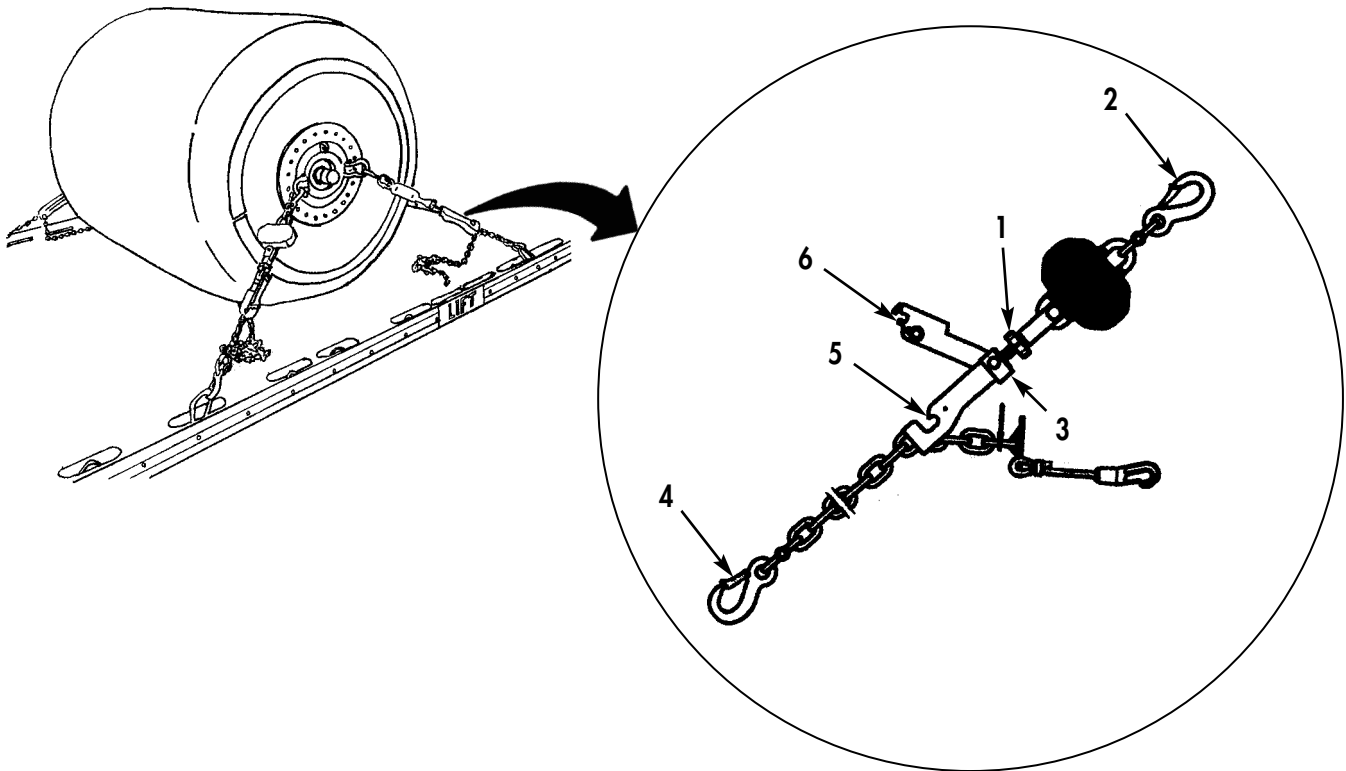
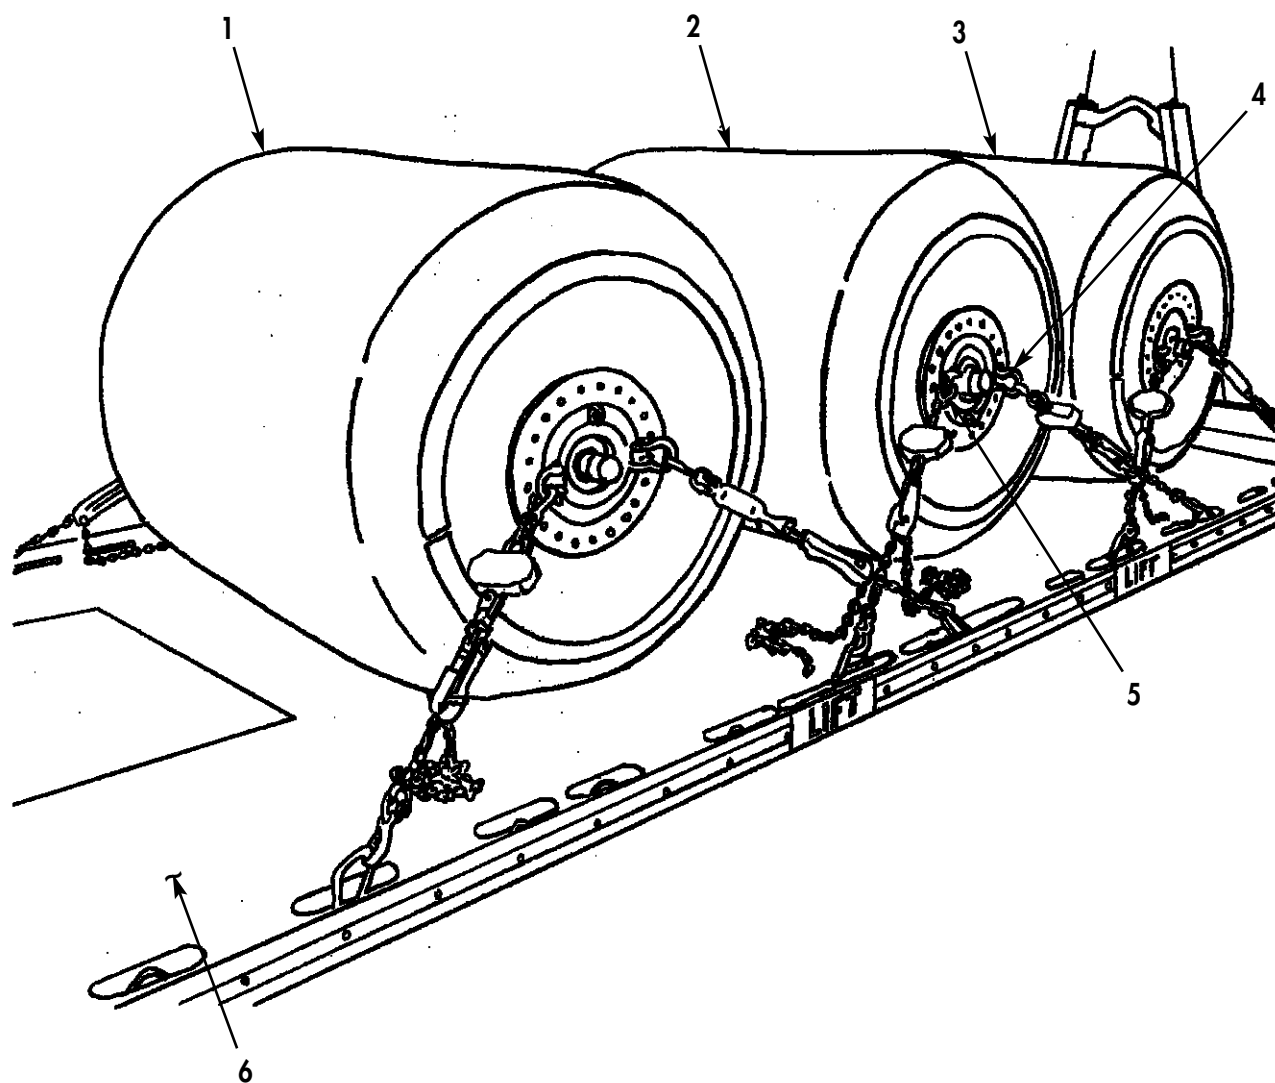

Figure 15. Tensioning Tiedowns.
Figure 16. Tiedown Chains Installed.
Tension will be applied diagonally following tension order. This ensures drum is not tilted to one side resulting in uneven weight distribution. Refer to figure 15 when tensioning drums.
- o. Check tightness of all four chain tiedown assemblies on first drum (Figure 16, Item 3) by checking handwheel (Figure 15, Item 1) on each tensioner assembly (Figure 15, Item 3) for looseness. If handwheel (Figure 15, Item 1) can be turned by hand, open tensioner handle (Figure 15, Item 6), take up slack chain link at hook (Figure 15, Item 5), and close and lock tensioner handle (Figure 15, Item 6). Repeat until handwheel (Figure 15, Item 1) on each tensioner (Figure 15, Item 3) cannot be turned by hand.
- p. Roll center drum (Figure 16, Item 2) forward until in contact with front drum (Figure 16, Item 3).
- q. Connect tensioner assembly hook (Figure 15, Item 2) to bow shackle (Figure 16, Item 4) on center drum (Figure 16, Item 2), and connect chain assembly hook (Figure 15, Item 4) to platform tiedown ring listed in table 1 at both sides of CROP (Figure 16, Item 6).
- r. With bow shackle (Figure 16, Item 5) approximately horizontal to platform, connect tensioner assembly hook (Figure 15, Item 2) to bow shackle (Figure 16, Item 5) on center drum (Figure 16, Item 2), and connect chain assembly hook (Figure 15, Item 4) to platform tiedown ring listed in table 1 at both sides of CROP (Figure 16, Item 6).
- s. Repeat steps m through o to tension chain tiedown assemblies on center drum (Figure 16, Item 2).
- t. Repeat steps p through s for rear drum (Figure 16, Item 1).